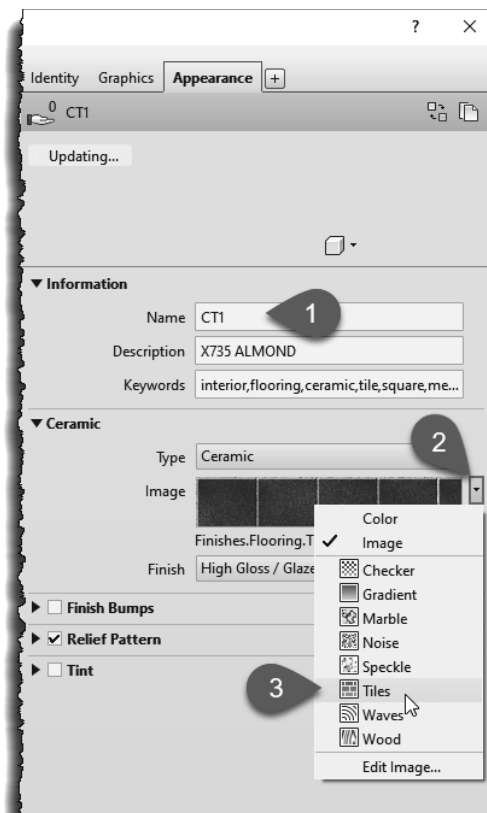
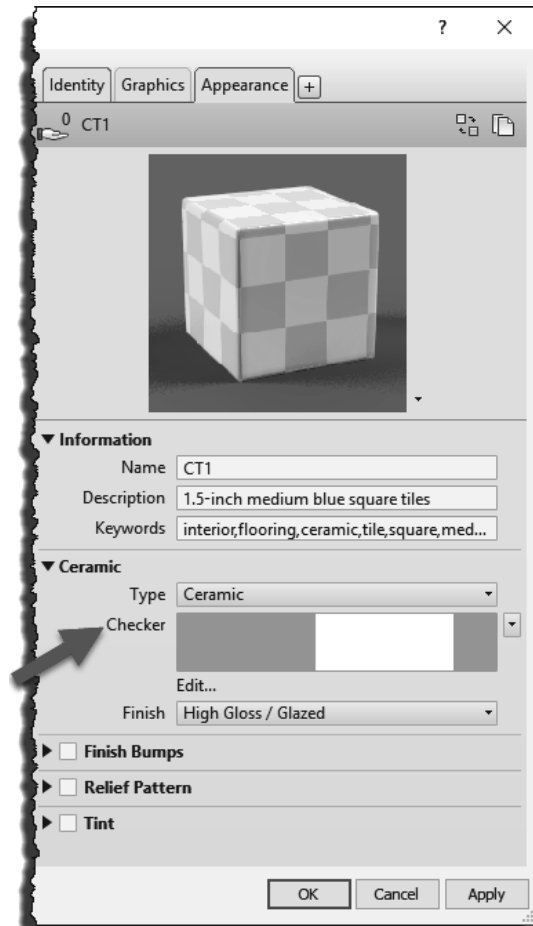

FIGURE 4-4.4 Material Browser; Appearance tab
FIGURE 4-4.6 Material Browser (alternate option)
19. Rename it **CT1** (Steps 1 & 2, Figure 4-4.4).
Notice this material is currently using an image file to represent the tile (Figure 4-4.4). This would be like taking a photo of an installed tile and then cropping it so that it repeats nicely. In the next few steps, you will take a look at another option for representing tile.
20. Click the down-arrow to the right of the image preview (Step 3, Figure 4-4.4).
The *Material Browser* dialog below shows one of the other options shown in Figure 4-4.4. This is the **Checker** option where you can select two separate colors. This can be used for an entire wall or in an accent area (Figure 4-4.6). Be sure to explore the other options, such as *Wood*, which can be used to represent wood or other things such as art glass.